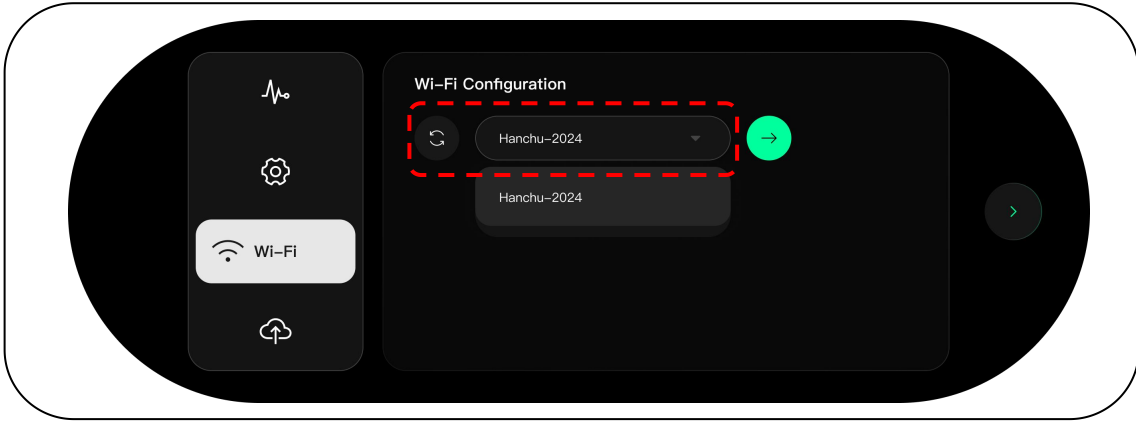

Figure 58
- 2) Click the drop-down menu to select the WiFi you want to connect to, as shown in Figure 58.